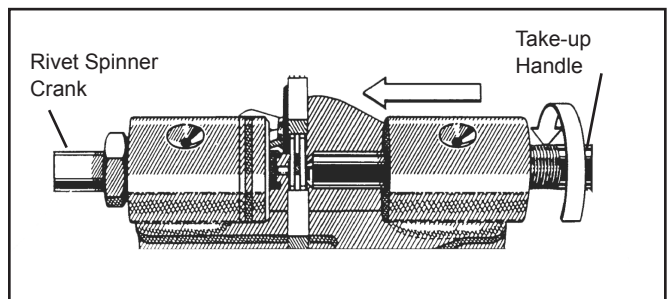

Figure 18. Securing the Chain
3. Turn the take-up handle until the chain is tight against the spinner anvil (Figure 18).